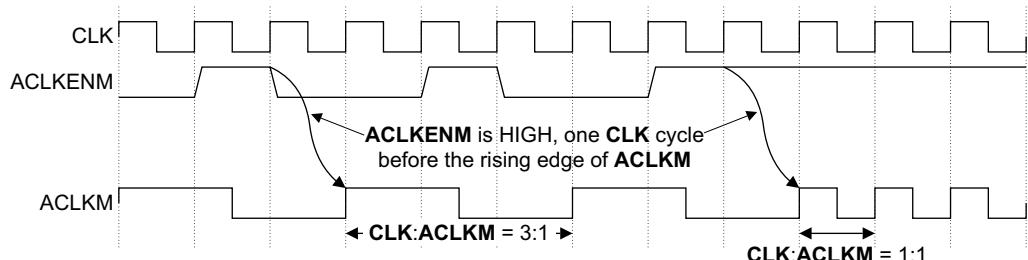

Figure 2-2 **ACLKENM** with **CLK:ACLKM** ratio changing from 3:1 to 1:1
Figure 2-2 shows a timing example of **ACLKENM** that changes the **CLK** to **ACLKM** frequency ratio from 3:1 to 1:1.
- Figure 2-2 shows the timing relationship between the AXI master clock, **ACLKM** and **ACLKENM**, where **ACLKENM** asserts one **CLK** cycle before the rising edge of **ACLKM**. It is important that the relationship between **ACLKM** and **ACLKENM** is maintained.